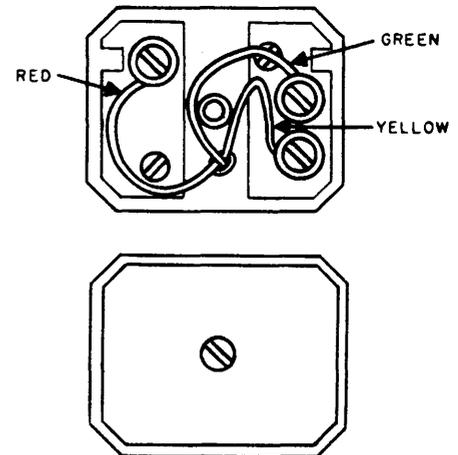

Figure 30. GTE AE D-15959-A Connecting Block Wired from Rear.
7.11 The GTE AE D-15959-A and D-15922-A blocks are suitable only for GTE AE telephone set line cords, which have a ring-band strain relief. The station wire should be stapled to the mounting surface near the point of wire entry into the block. If the wire emerges from a hole in the wall or baseboard, locate the block with its molded center hole over the wire hole and pass the wire through the block (Figure 30). The mounting holes will accommodate a number 8 screw.